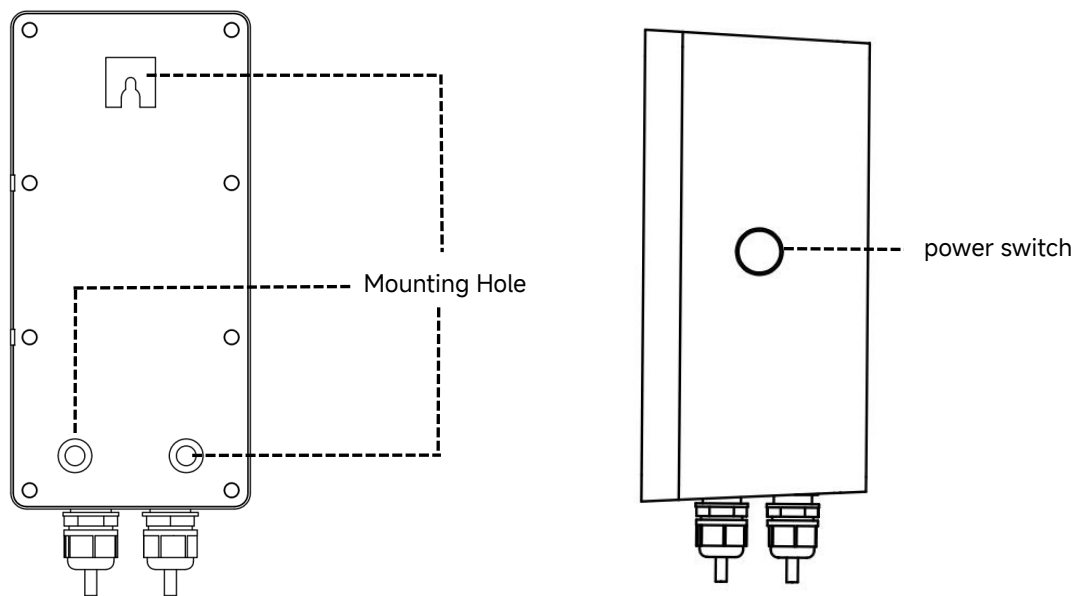

Figure 3 - Mounting Holes
- 2) Hold the box in place and use the three holes (FIG.3) to mark position on the mounting surface.